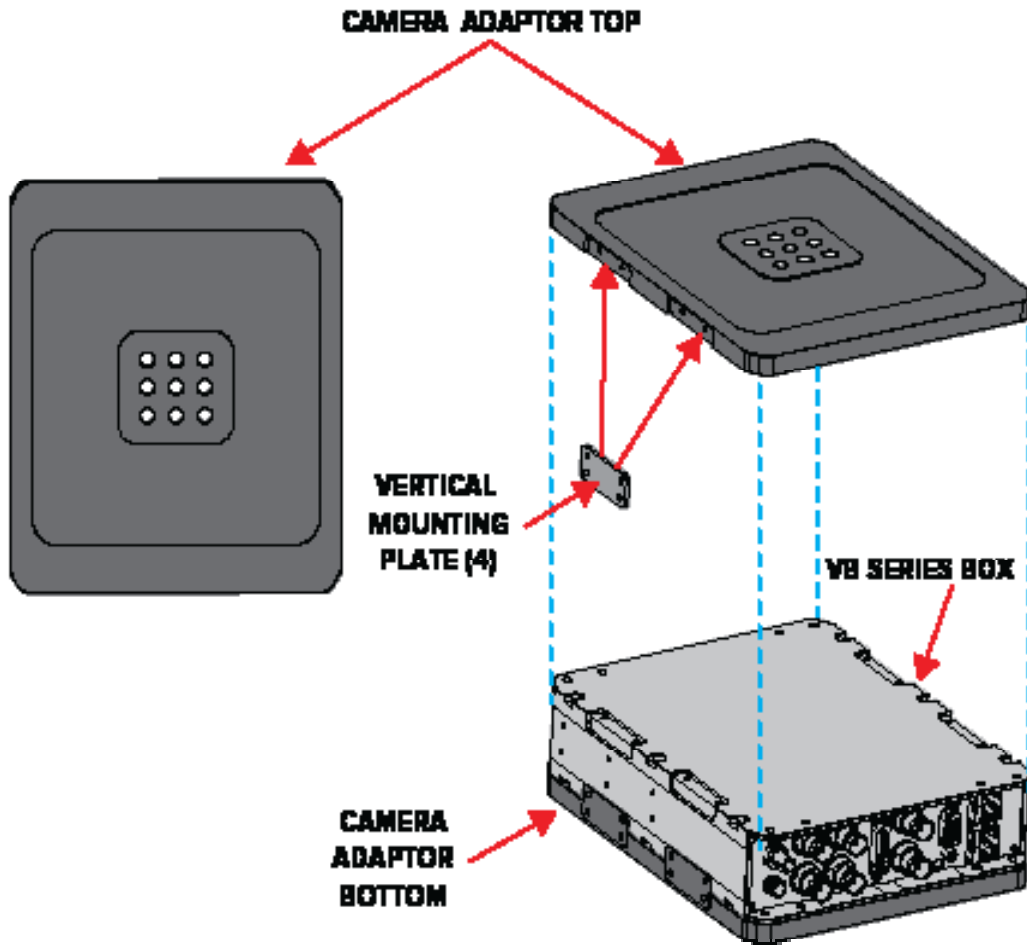

Figure 24. PTZ Camera Mounting Diagram Example
1. At the location where the VB Box is to be installed, make sure all the necessary wiring is available to connect the VB Box to the structure. Figure 24 shows an example diagram of a PTZ Camera Mounting.